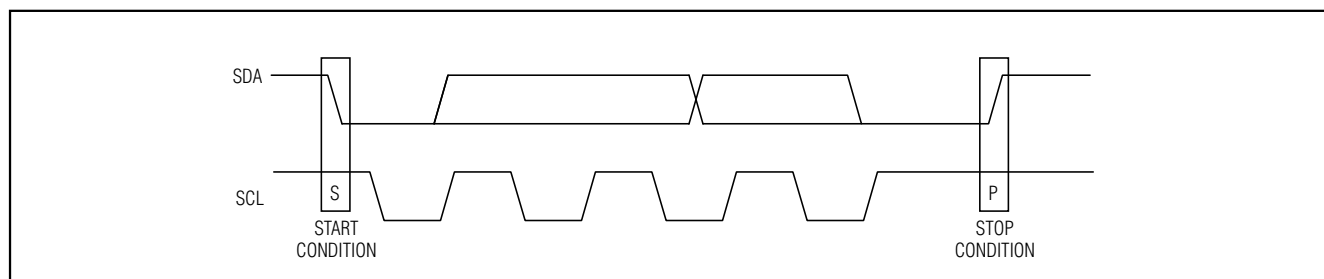
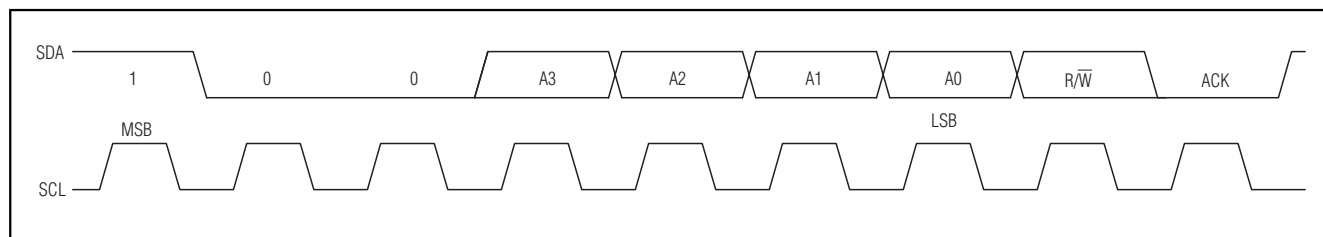

Figure 3. Start and Stop Conditions
Figure 6. Slave Address
Each transmission consists of a START condition (Figure 3) sent by a master, followed by the MAX7300 7-bit slave address plus R/W bit (Figure 6), a register address byte, one or more data bytes, and finally a STOP condition (Figure 3).
Both SCL and SDA remain high when the interface is not busy. A master signals the beginning of a transmission with a START (S) condition by transitioning SDA from high to low while SCL is high. When the master has finished communicating with the slave, it issues a STOP (P) condition by transitioning SDA from low to high while SCL is high. The bus is then free for another transmission (Figure 3).
The MAX7300 has a 7-bit-long slave address (Figure 6). The eighth bit following the 7-bit slave address is the R/\overline{W} bit. It is low for a write command and high for a read command.